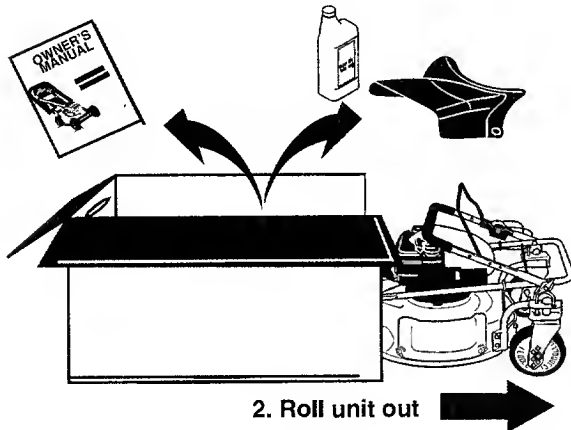

Figure 1
- Remove loose parts if included with unit (i.e., owner's manual, etc.). See Figure 1.
- Roll or slide unit out of carton. Check carton thoroughly for loose parts. See Figure 1.